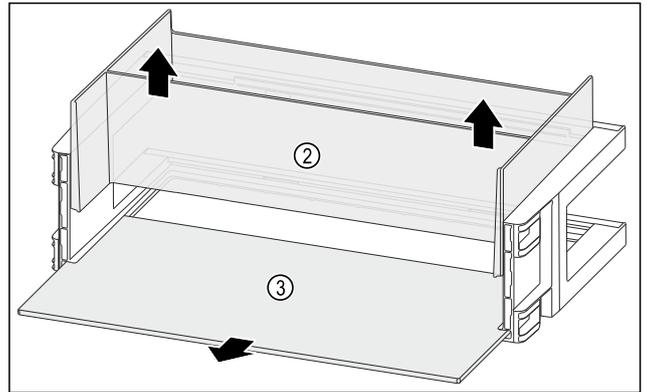

Fig. 114
- ▶ Remove the organiser Fig. 114 (2) upwards.
- ▶ Remove the shelf Fig. 114 (3).